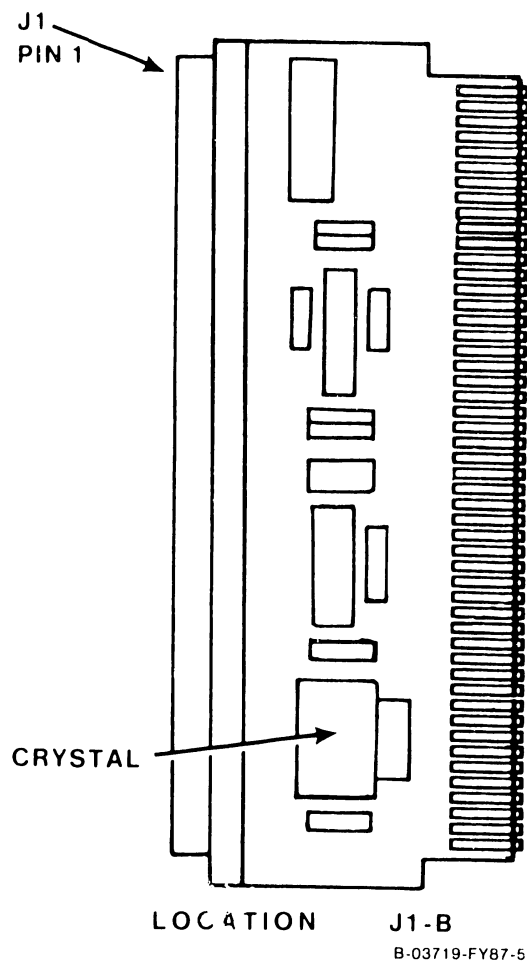

Figure 7-9. 210-8846 External Clock Board
1. The External Clock board (figure 7-9) supplies system clock to maintain centralized system component synchronization. It is located on the rear of the backplane at slot #1 (FPU slot), connector B (J1-B).